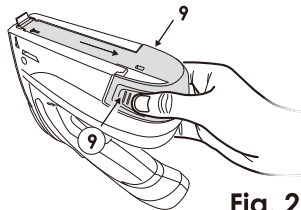

Fig. 2
Squeeze both sides of the Magazine Release (9) and slide the Magazine to the open position (Fig.2)